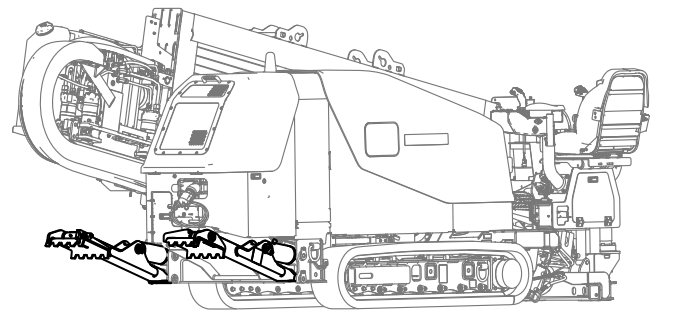

Figure 61
3. Lower the rear stabilizers until they contact the ground firmly, or until the desired entry angle is achieved (Figure 61).